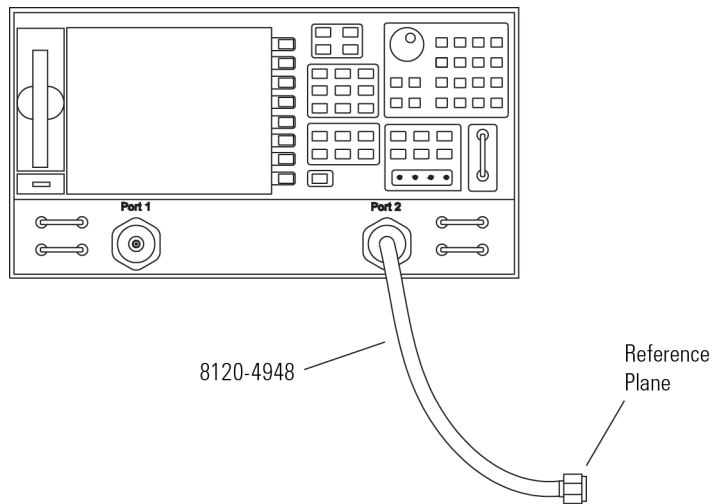

Figure 214 SMA Cable Connected to Port 2
- 13 Connect the other high quality SMA cable to the VNA's **PORT 2** as shown in **Figure 214**.